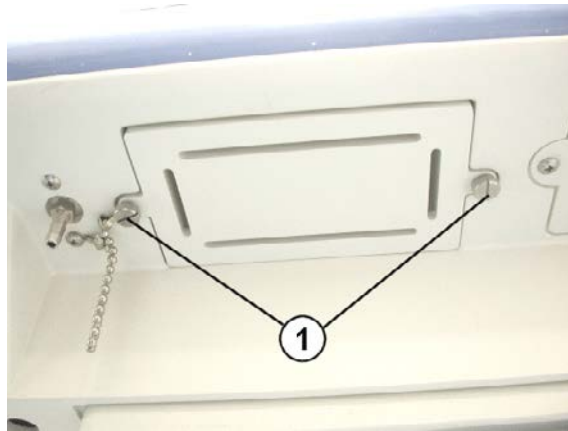

Fig. 9 Underside (rear) of Isolette; screws
- 3 Loosen the screws (Fig. 9/1) on the underside (rear) of the Isolette as far as possible.
- 6 Fix the mounting to the Isolette by the screws (Fig. 9/1).